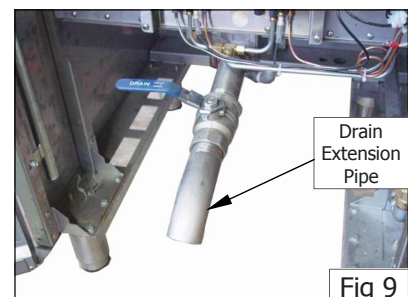

Fig 9
3. Screw drain extension pipe onto end of drain valve (see Fig 9) and position a suitable container and filter under drain extension pipe.